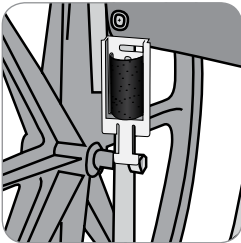

Fig. 26
Use wall/chair bracket (Cat. 8276 without wire clip) to attach alarm to a wheelchair or geri-chair (fig. 26). Follow these steps to attach alarm:
- Wrap the straps firmly around the wheelchair frame (fig. 26).